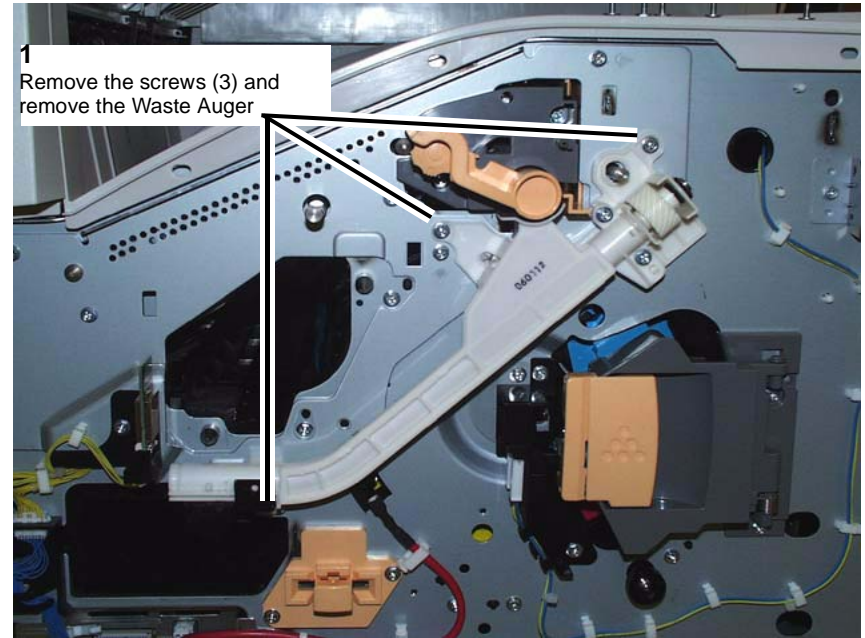

Figure 5 Removing the Waste Auger
9. Remove the Waste Auger. (Figure 5)